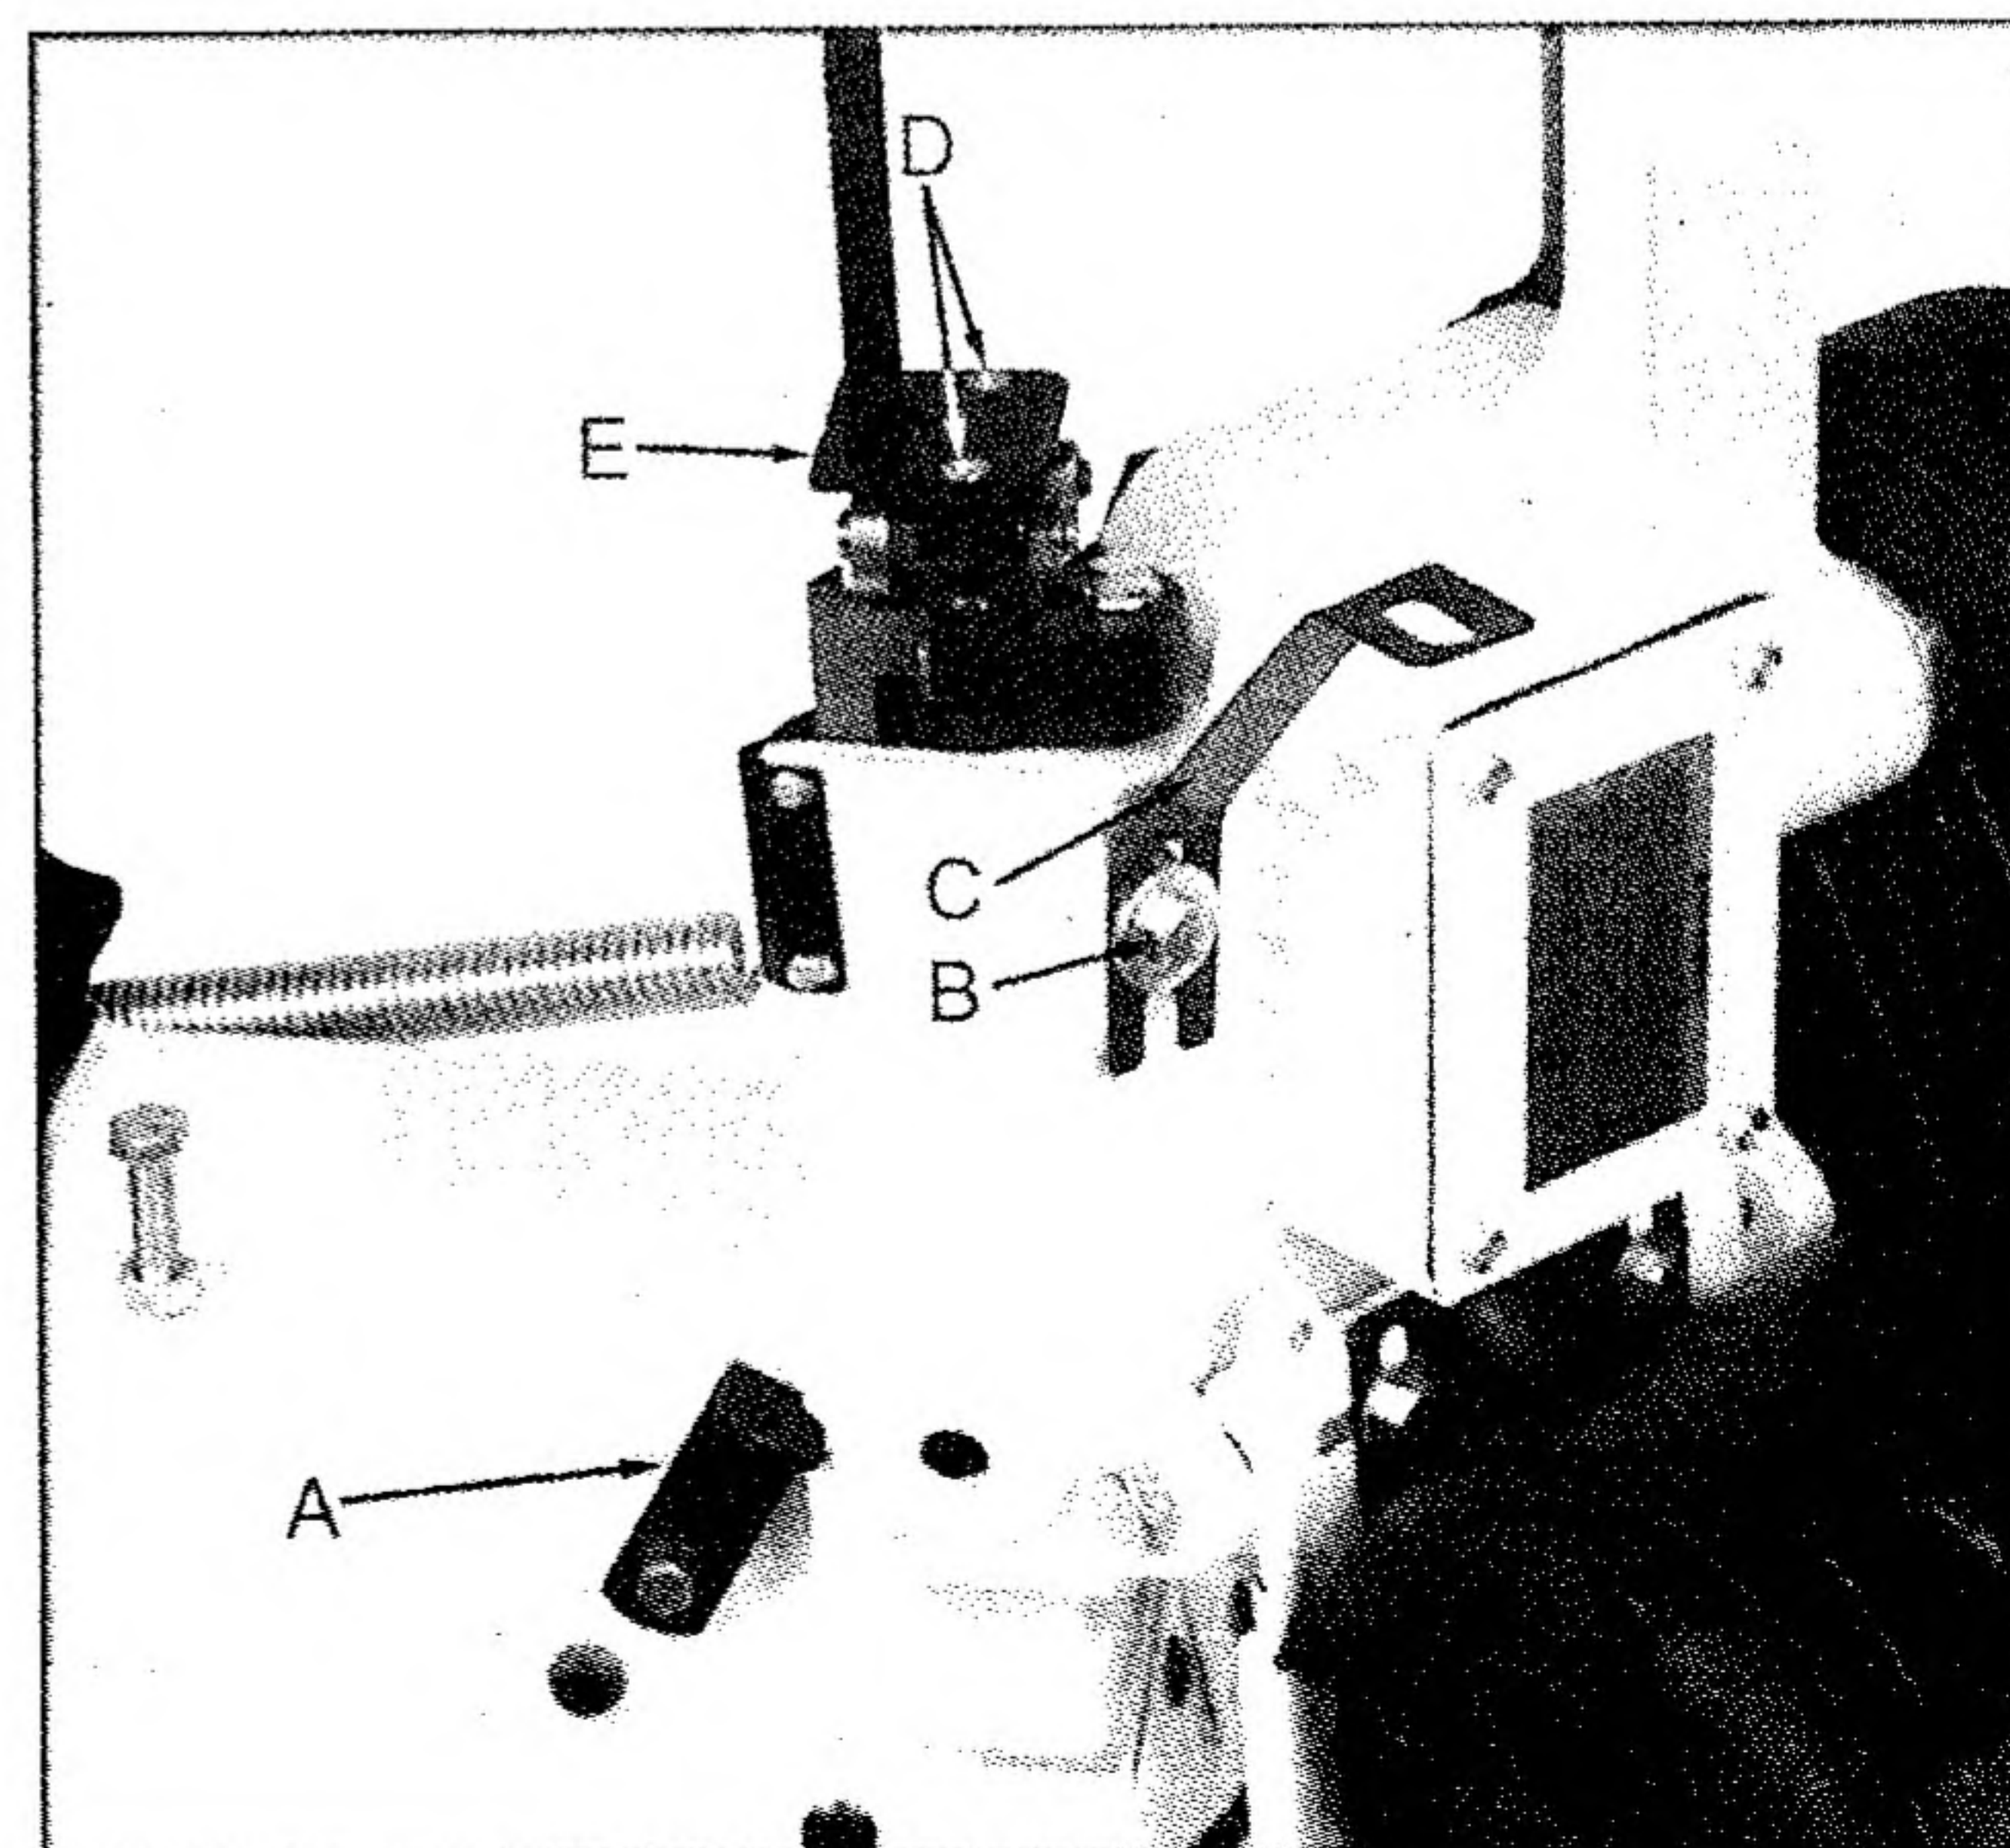

Fig. 7
2. Raise the arm to the vertical position and lock in place with lever (A, Fig. 7).
3. Loosen bolt (B, Fig. 7) and insert bracket (C, Fig. 7). Tighten bolt just enough to hold the bracket in place.
4. Remove two screws (D, Fig. 7) and plate (E, Fig. 7).
7. Tighten bolt (B, Fig 7).